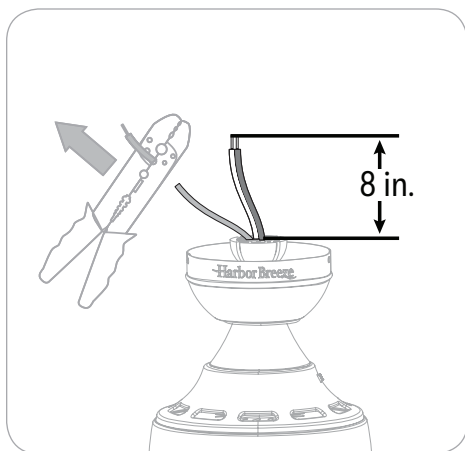

Figure 3.4
4. Depending on the length of downrod you use, you may want to cut the fan wires to simplify wiring. After pulling the wires all the way through the downrod, measure 8 inches of wire. Cut off the excess wire using wire cutters (not included) (Figure 3.4).